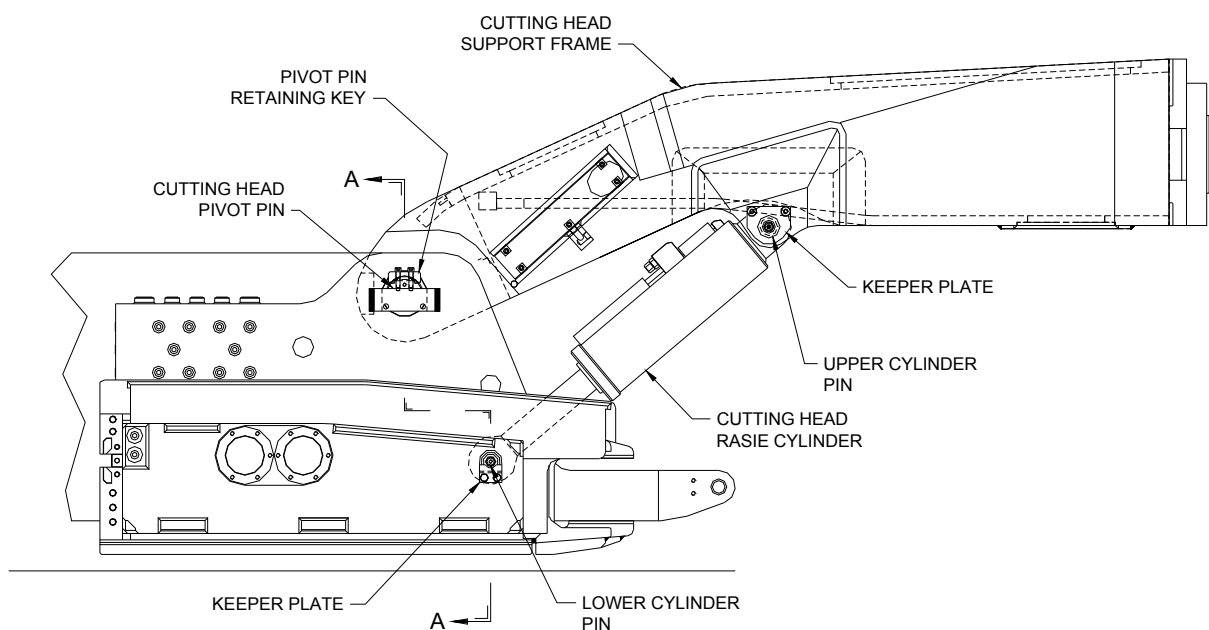

Figure 5.22
12. Remove the two (2) 3/4" UNC flat head cap screws and keeper plates from the upper cylinder pins on each side (see Figure 5.22 & 5.23).